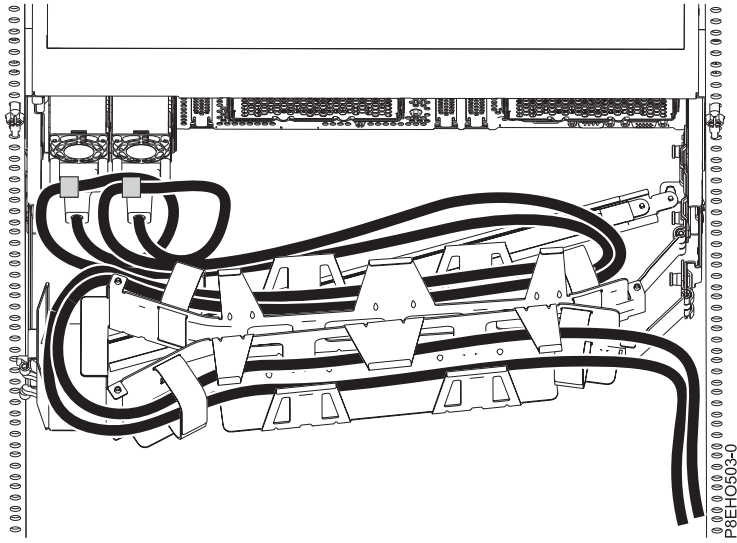
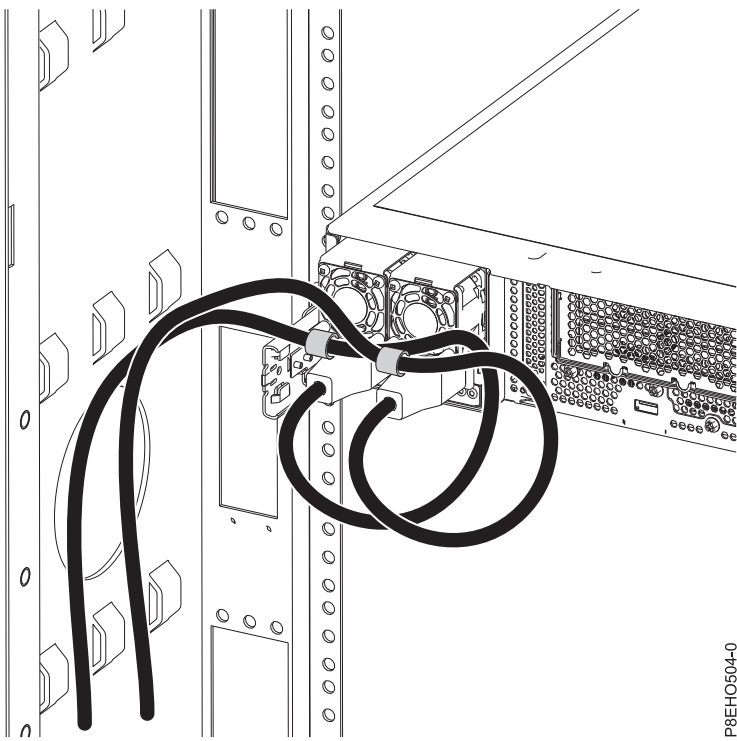

Figure 73. Power cord loop with cable management arm routing. The power cord loops counterclockwise to the right.
Figure 74. Power cord loop with sidewall routing. The power cord loops counterclockwise to the left.
3. Loop and attach the power cords to the power supply handle. Note how the power is looped; be sure to maintain at least a 5 cm (2 in.) diameter loop. There are two types of loops, detailed in Figure 73 on page 105 and Figure 74 on page 105. Use the hook-and-loop fastener to tie the power cord to the power supply handle.